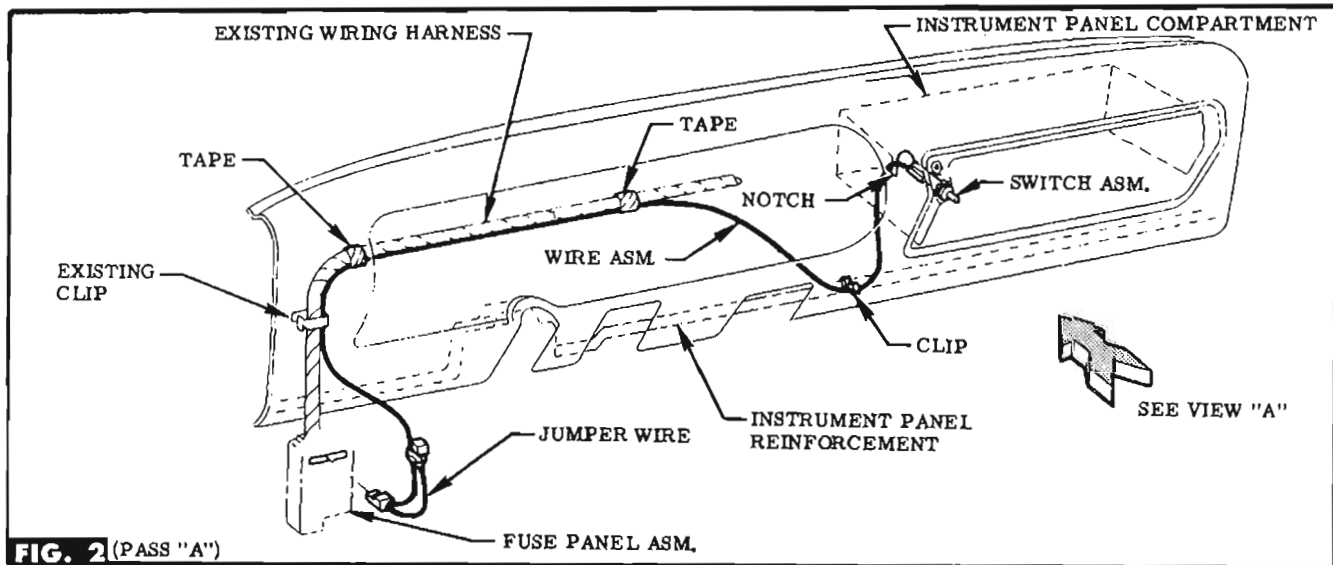

FIG. 2 (PASS "A")
STEP 5 (PASS "A") ROUTE WIRE DOWN TO REINFORCEMENT & ATTACH WIRE WITH PROVIDED CLIP. ROUTE WIRE ALONG EXISTING HARNESS TO FUSE PANEL. TAPE WIRE TO HARNESS AS SHOWN. SEE FIG. 2.
STEP 6 (PASS "A") PLUG WIRE CONNECTOR INTO RECEPTACLE MARKED "BAT. FUSED". SEE FIG. 2. **NOTE** If receptacle is occupied, remove existing wire & connect to jumper wire. Discard Clip & Blade Asm. & Fuse.